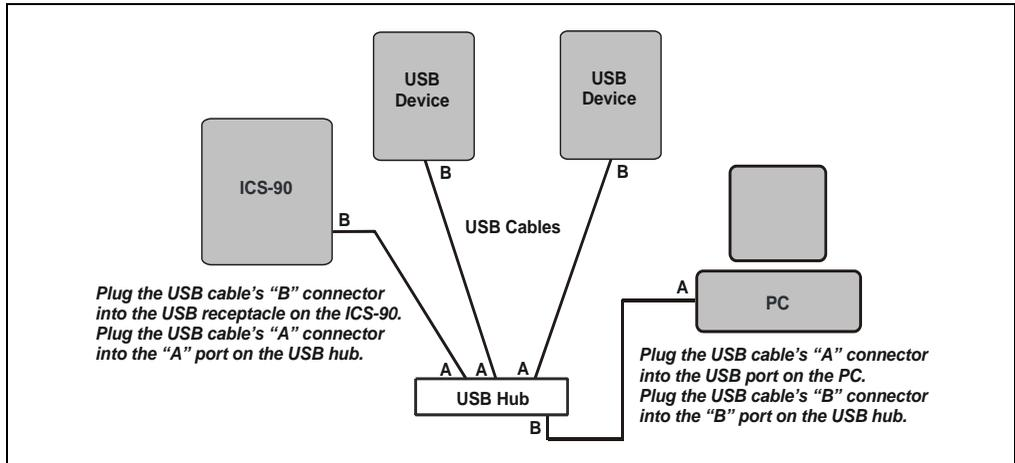

Figure 2-6. Example Connections: Multiple Modules Connected to an External Hub
1. Plug the “A” connector of a USB cable into a port on the external USB hub (see Figure 2-6).
2. Plug the “B” connector of the cable into the USB receptacle on the ICS-90 rear panel (see Figure 2-6).
3. Plug the "A" connector of a USB cable into a USB port on the computer (see Figure 2-6).